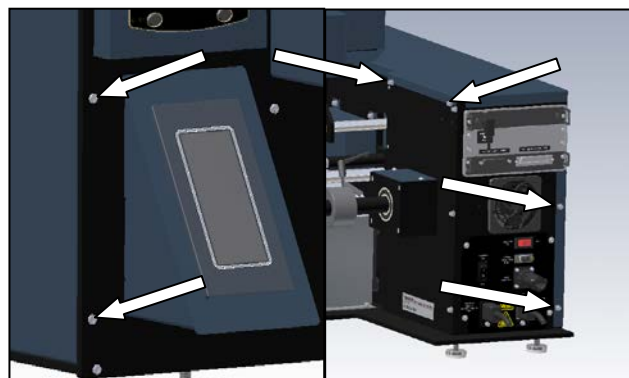

Figure 3-110. Frame Cover Screws
1. Remove the six screws holding the Frame Cover. Set screws and Frame Cover aside (Figure 3-110).